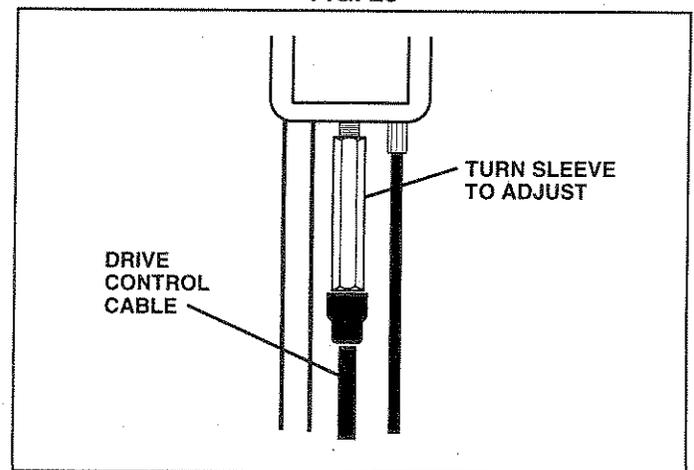

FIG. 26
- The drive control adjuster is the hex shaped fitting at the front of the drive speed control, where cable enters control box (See Fig. 26)